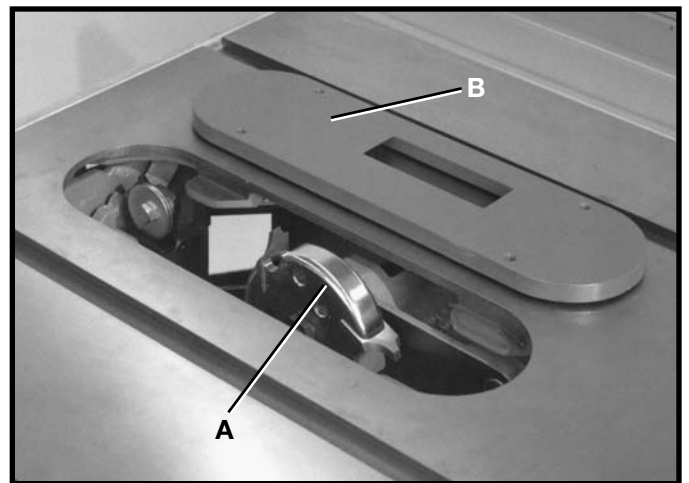

Fig. 66
The moulding cutterhead (A) Fig. 66, is assembled to the saw arbor in the same manner as the saw blade. The guard, splitter and anti-kickback finger assembly cannot be used when moulding and must be removed from the saw. In place of the guard, auxiliary jigs or fixtures and push sticks and featherboards should be used. Also, the accessory moulding cutterhead table insert (B) Fig. 66, must be used in place of the standard table insert.